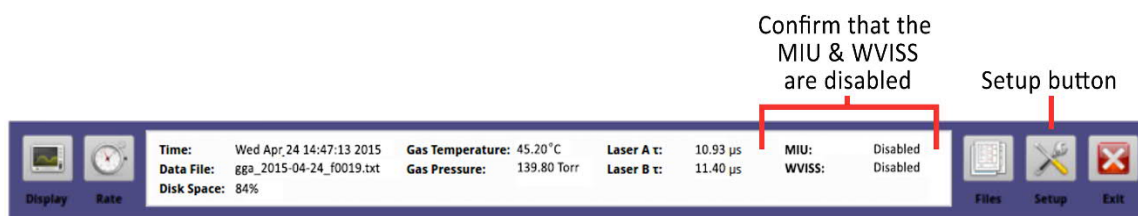

Figure 109: Setup button on the User Interface Control Bar
- i. Click Setup on the *User Interface Control Bar*. (Figure 109)